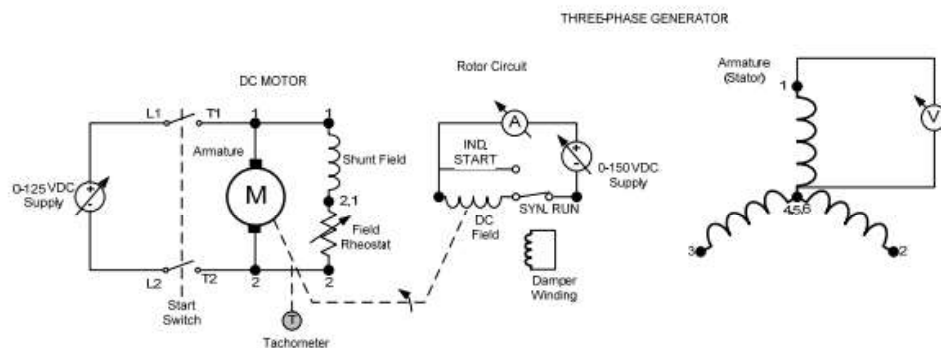

Fig. 9. Experiment setting for the open circuit test
5. See fig. 9: connect the dc motor terminals (L1-L2) to the 0-125-V-DC variable source. Make sure the source knob is turned to zero. Connect the synchronous motor field circuit to the 0-150-V-DC variable source through a dc ammeter; Make sure the source knob is turned to zero. The circuit is shown in fig. 9.
Procedure (continued from preceding part. Configuration as in fig. 9):
2. Beginning from zero, increase the generator field current in steps of 0.25 A until 1.25 A. At each step readjust the rotor speed to synchronous using the stroboscope; then measure the line-to-neutral rms voltage across the stator terminals as shown in fig. 9. Record the values of the field current and the stator voltage.